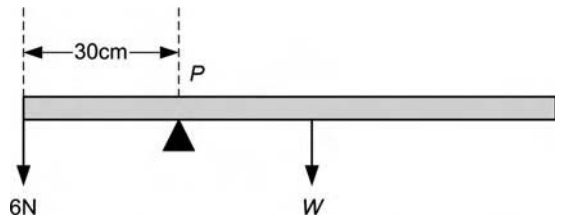

Figure 4.141 A uniform metre rule balanced as shown.
25. A uniform meter rule is balanced as shown in Figure 4.141. [A, B1, B2]
26. With respect to Figure 4.141, the force on the rule at point P is: [A, B1, B2]